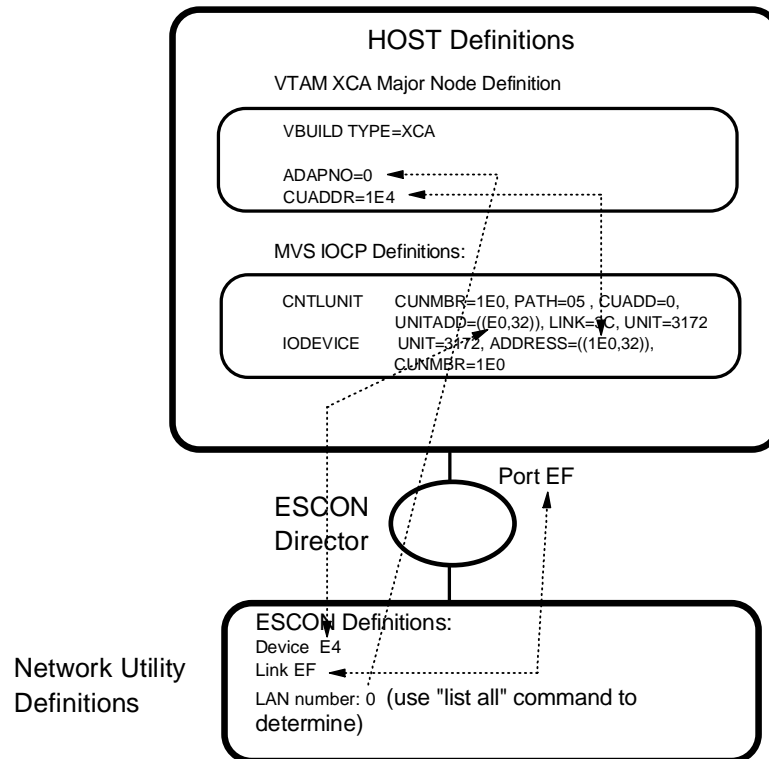

Figure 14-7. Host/Network Utility Parameter Relationships - LSA
The LSA Direct Interface: Figure 14-7 on page 14-10 shows how the configuration parameters for the Network Utility correlate to the host parameters for an LSA interface definition.
2. The device address specified in the Network Utility LSA interface definition must be within the range specified in the UNITADD parameter in the CNTLUNIT macro from the IOCP. For example, the UNITADD parameter in Figure 14-7 shows that 32 (decimal) device addresses starting at E0 (hex) are being reserved for the Network Utility definition. A device address E4 has been specified for the Network Utility LSA interface. Because E4 is in the range between E0 and FF hex, this is OK as long as no other device (or interface on this Network Utility) tries to use that subchannel.
3. The value specified in the CUADDR parameter in the VTAM XCA major node definition must be within the range specified in the ADDRESS parameter in the IODEVICE macro from the IOCP. For example, the CUADDR parameter in the XCA major node definition in Figure 14-7 is 1E4 hex, which is in the range 1E0 to 1FF that the ADDRESS parameter in the IODEVICE statement specifies.